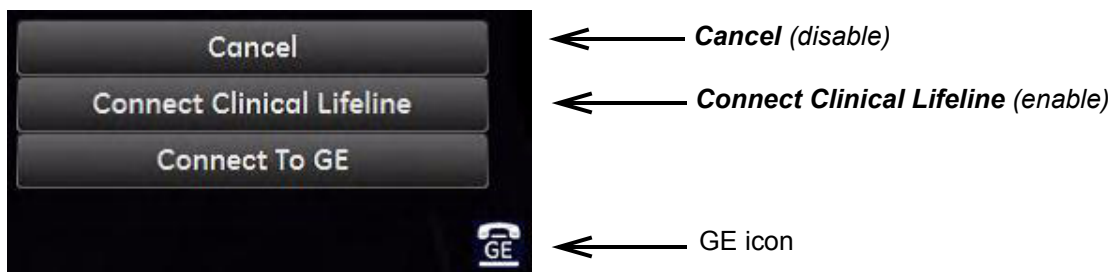

Figure 7-18 Connect Clinical Lifeline
- 3.) Select **Connect Clinical Lifeline** (see: Figure 7-18 below).